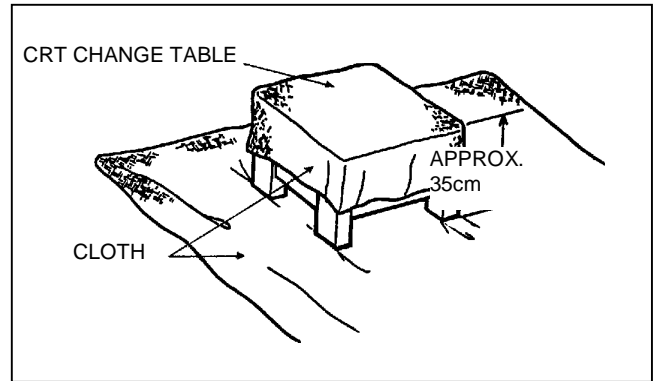

Fig. 4
- 1. Putting the CRT change table on soft cloth, the CRT change table should also be covered with such soft cloth (shown in Fig.4).